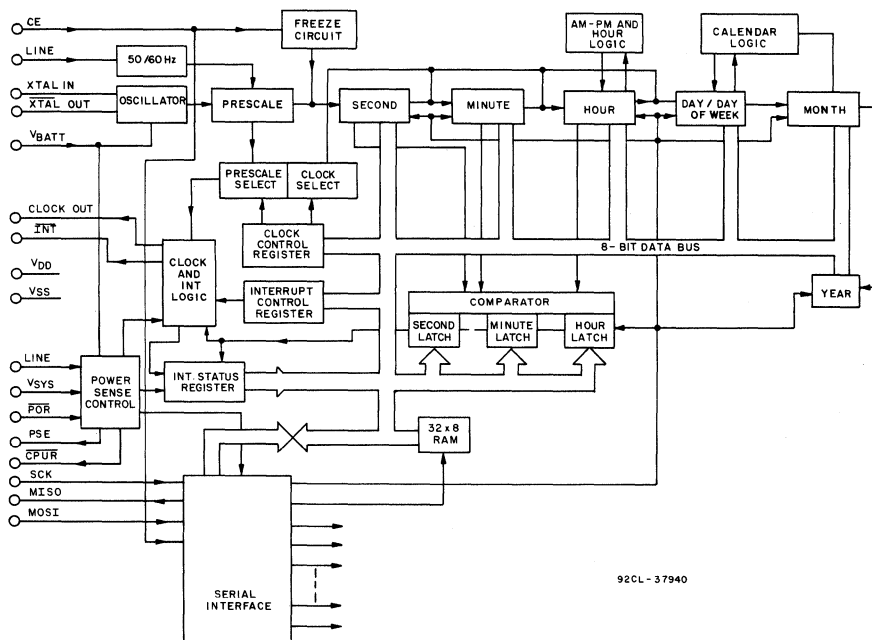

Fig. 1 - Real-time clock functional diagram.
**CLOCK/CALENDAR (See Figs. 1 and 2.)**